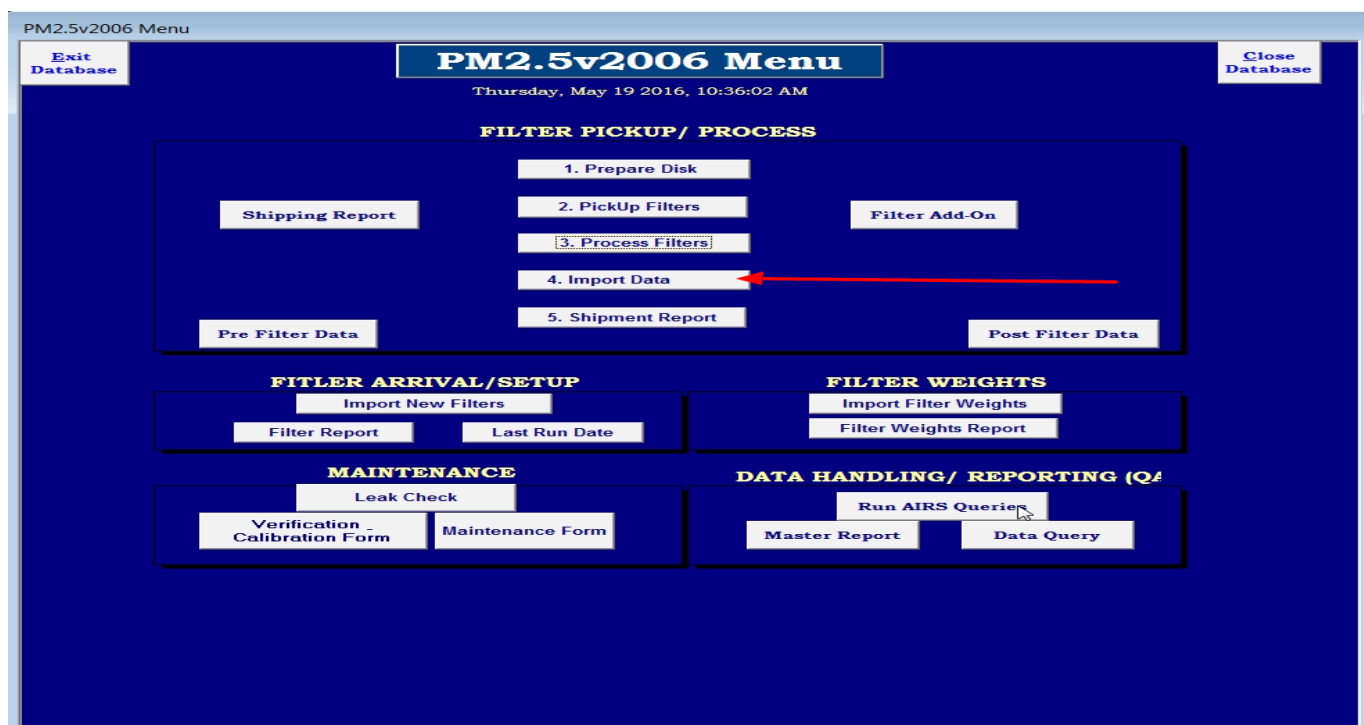

Figure 27: Process Filters Button
6.4.4.3 Exit Excel and return to the PM_{2.5}V2006 database and Press "4. Import Data" button (see Figure 27). Select the site(s) visited and date (mm/dd/yyyy) then press "Begin Import".